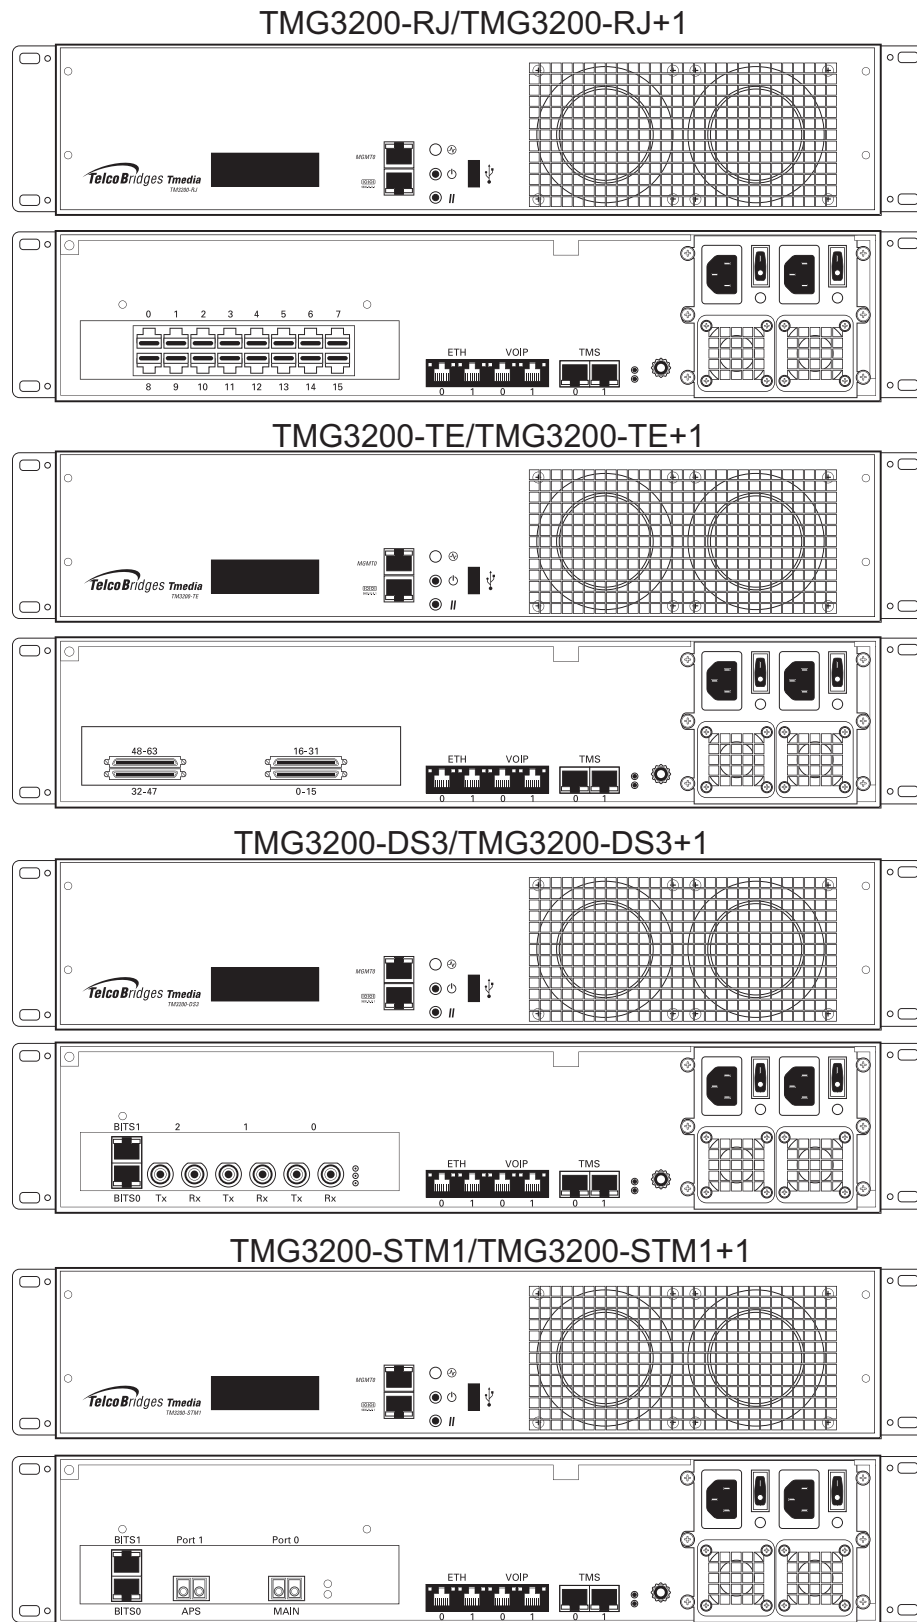
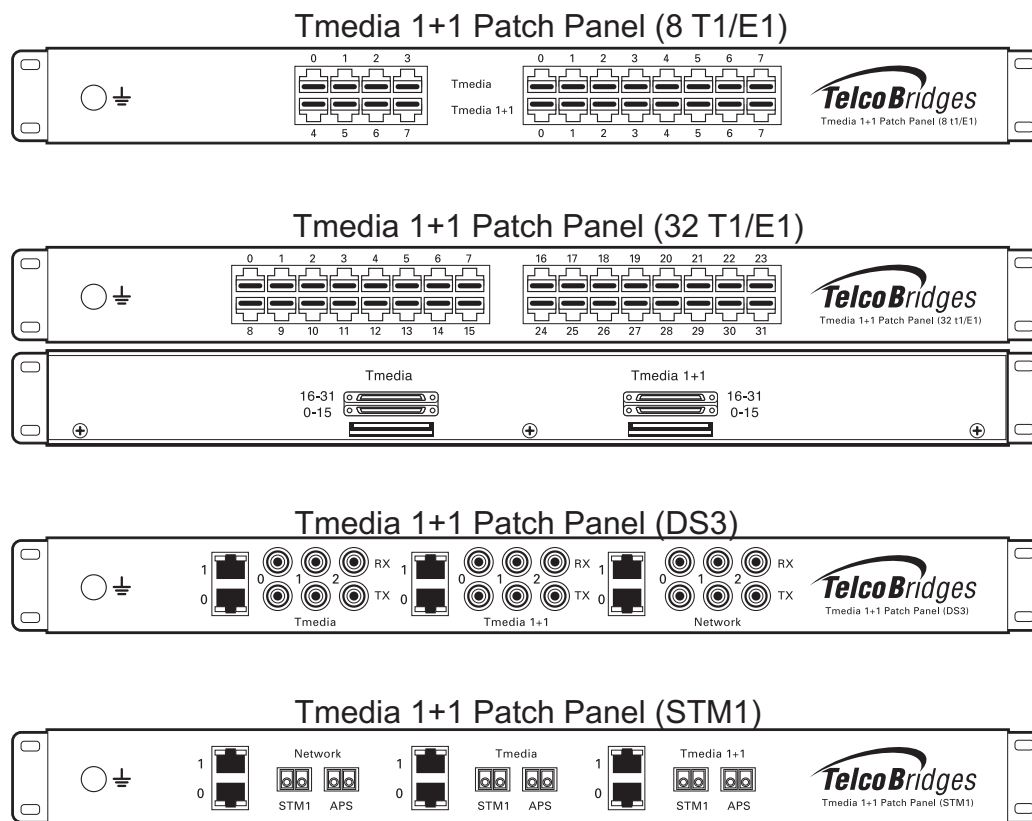

Figure 1.1 TMG3200 and TMG3200 +1 Front and Rear Views
Figure 1.2 1+1 Patch Panels
- Recognizing your Tmedia 1+1 system (shown in figure 1.1 and figure 1.2).
The installation and setup of a Tmedia 1+1 system (see figure 1.1 on page 3 and figure 1.2 on page 4) is described by a series of topics in the following order:
- One (1) TMG3200 unit (TMG3200-RJ, TMG3200-TE, TMG3200-DS3, or TMG3200-STM1). See figure 1.1 on page 3.
- One (1) set of mounting brackets and screws, used to mount the TMG3200 to a 19" rack.
- One (1) DB-9 to RJ-45 adapter to interface the serial port of your computer with the RJ-45 port of the TMG3200.
- Three (3) CAT5 Ethernet (blue) straight cables (male-male), 3 meters in length.
- One (1) Important Notice (two-sided document containing pertinent product serial numbers, and other important information).
- One (1) Product Warranty.
- One (1) packing slip.
- One (1) Quick Installation Guide (two-sided document that provides a pictorial view of the equipment setup).
- Two (2) AC or DC power cables
- One (1) TMG3200 +1 unit (TMG3200-RJ+1, TMG3200-TE+1, TMG3200-DS3+1, or TMG3200-STM1+1). See figure 1.1 on page 3.
- One (1) set of mounting brackets and screws, used to mount the TMG3200 +1 to a 19" rack.
- One (1) DB-9 to RJ-45 adapter, to interface the serial port of your computer with the RJ-45 port of the TMG3200.
- Five (5) CAT5 Ethernet (blue) straight cables (male-male), 3 meters in length.
- One (1) Quick Installation Guide (two-sided document that provides a pictorial view of the equipment set-up).
- Two (2) AC or DC power cables.
- The associated 1+1 patch panel for the TMG3200 +1. See figure 1.2 on page 4 for further details.
- The associated TMD network cables. See figure 1.2 on page 4 for further details.